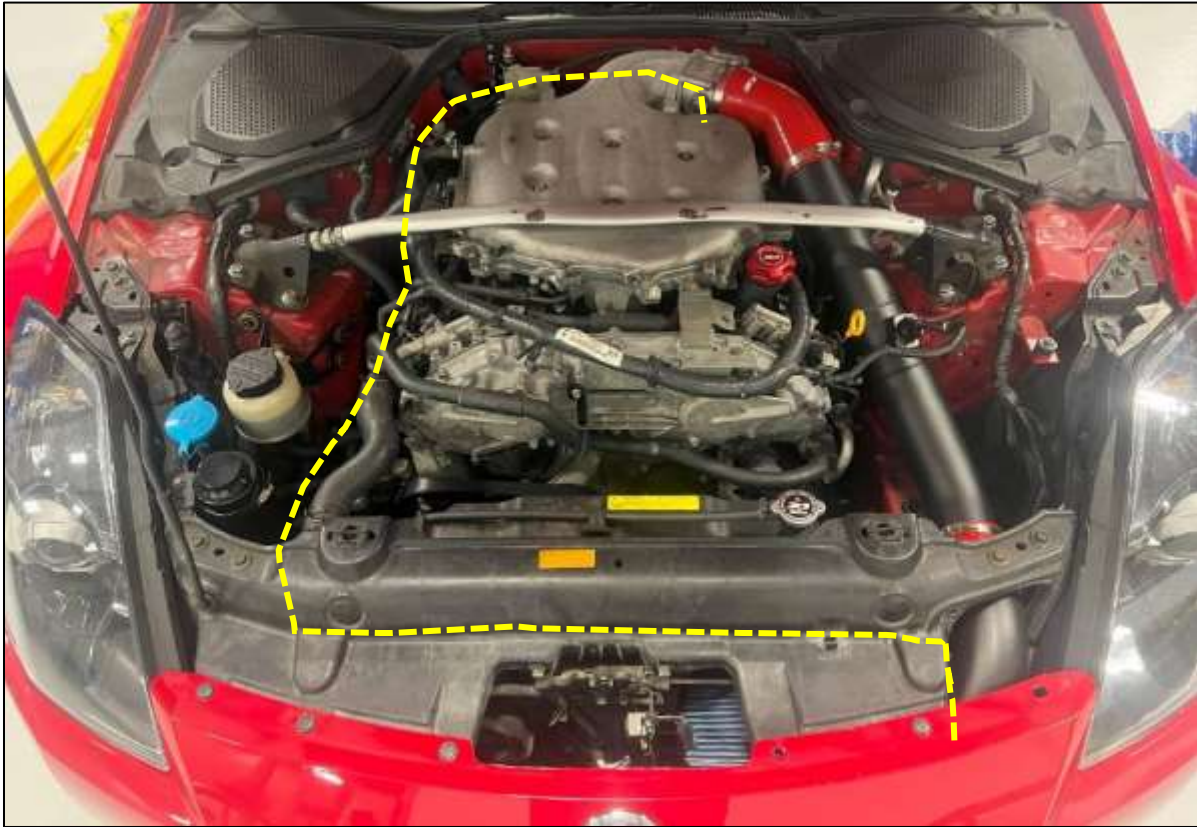

Figure 91
4. Route the rest of the Hose across and through the top of the Core Support, up against the Passenger Side of the vehicle and back behind the engine to the Driver Side Valve Cover. This is the only way the line can run without kinking or interfering with the Supercharger System. *Figure 91.*